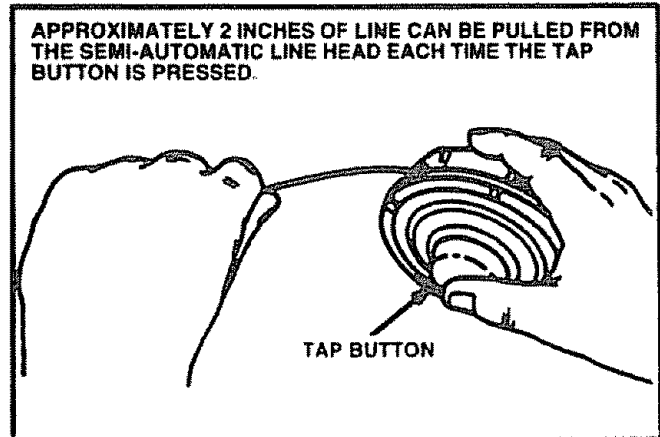

Figure 29
- Obtain the correct line length (6 inches) by pressing tap button and pulling on the line again. Figure 29.